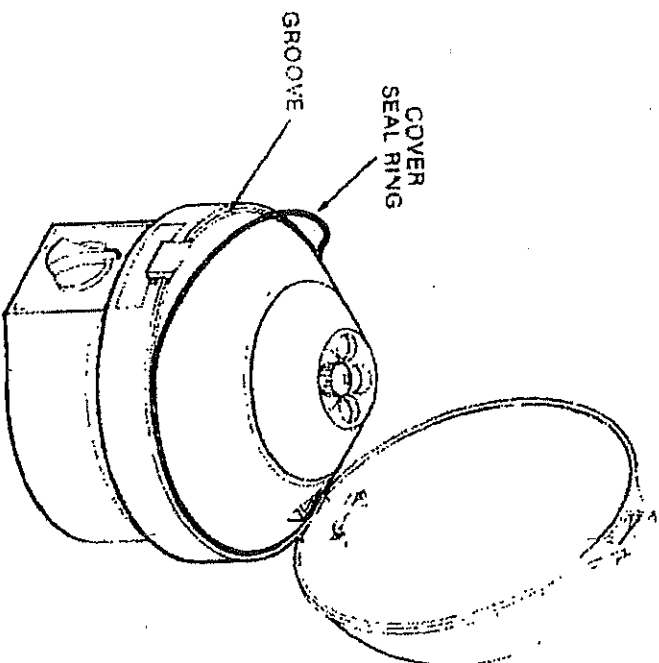

Figure 5-1 Cover Seal Ring.
- 1 Remove worn cover seal ring by peeling it from groove (see Figure 5-1).
- 4 Orient new ring as shown in Figure 5-1 and press firmly around circumference of groove. Make sure that open space between ends of ring is at rear of centrifuge.